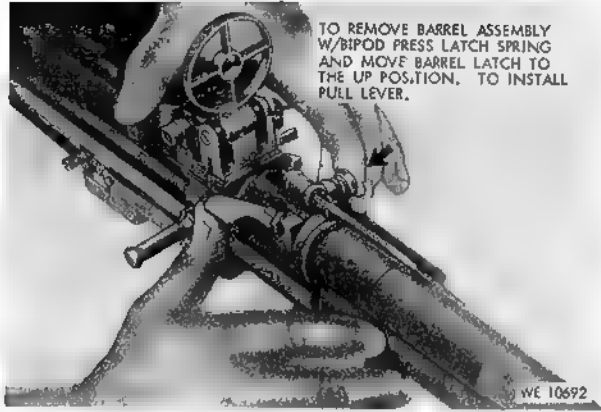

Figure 3-6. Removing or installing barrel assembly w/bipod assembly.
- a. Removal. Refer to figure 3-6.
- (1) Refer to TM 9-1005-224-12.
- (2) If barrel assembly w/bipod assembly is unserviceable, return to direct support for repair or replacement.